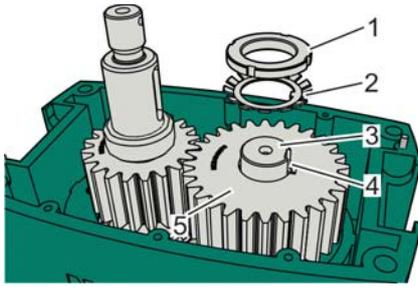

Fig. 97: Releasing the groove nut from the toothed wheel, example
- 10. ▶ Bend the tongue of the locking plate (Fig. 97/2) out of the groove of the groove nut (Fig. 97/1).
- 11. ▶ Release the groove nut (Fig. 97/1) with a hook spanner.
- 12. ▶ Twist the groove nut (Fig. 97/1) off the cutter block shaft (Fig. 97/3) and place to the side with the locking plate (Fig. 97/2).